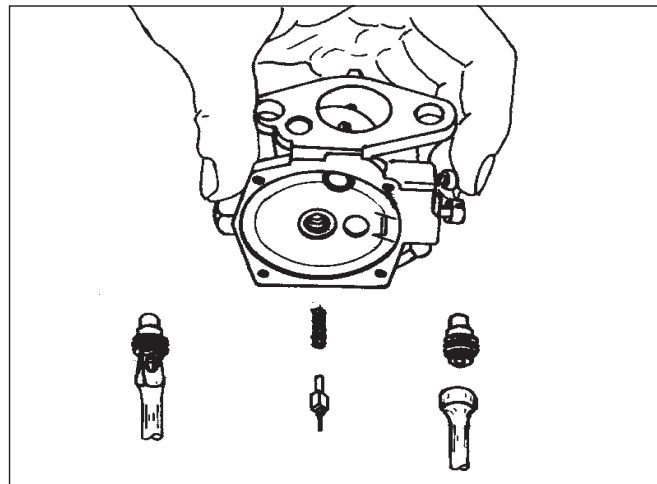

Fig. 6
- Remove main jet (nos. **14, 15, 16, 17**) and idle jet (nos. **10, 11, 12, 13**). Check these for serviceability, replace worn or damaged jets. On current carburettors, a fixed main jet is now fitted (8). This is fitted without seals etc, whereas the idle jet is adjustable and consists of a needle (10), spring (11), O-ring (12) and washer (13).
- Remove the 4 screws (26) of cover (25), remove the gasket (23) and diaphragm (24). At this point, check visually the gasket and diaphragm. The latter should be in good condition and not cracked or hardened.
- Remove the valve assembly (18, 19, 20, 21) with a hexagonal 5/32 spanner (or with a slotted head screwdriver for valves of the old type), taking care to extract washer, spring etc. (Fig 6).